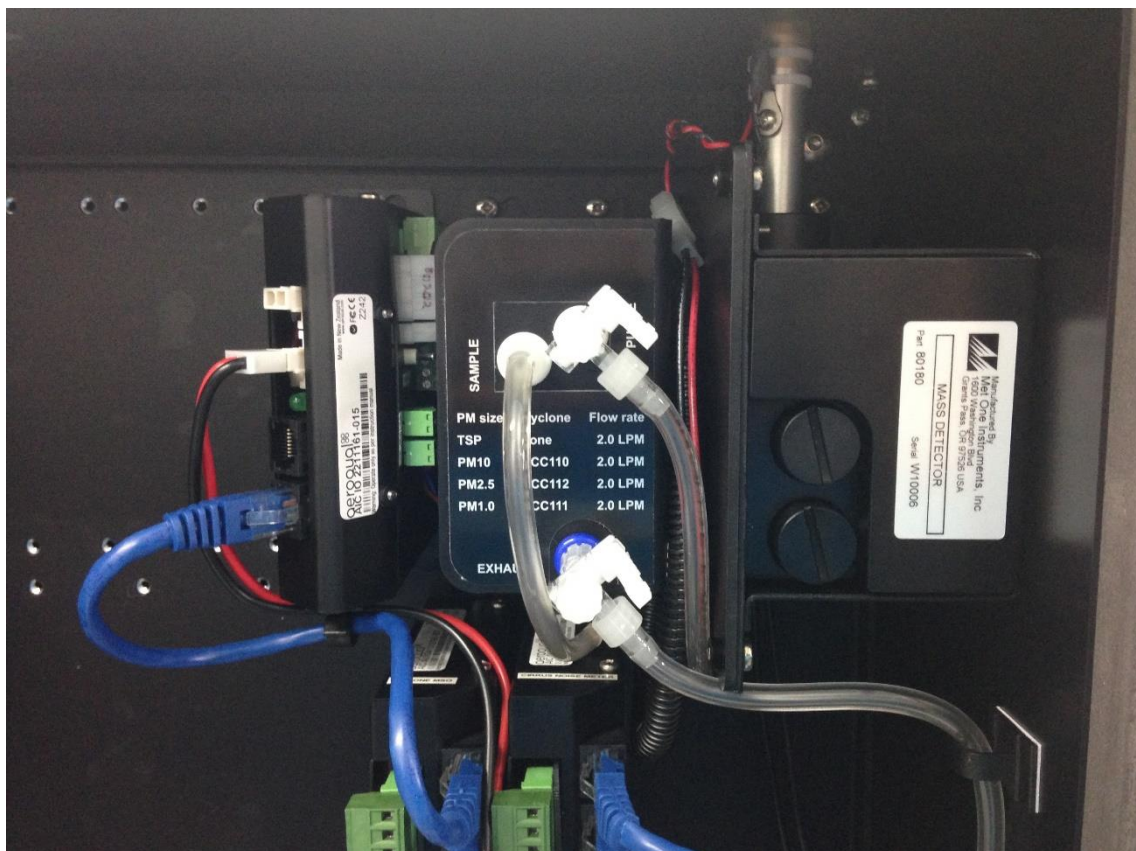

Figure 0-10 The Particle Monitor uses three modules: a) the optical engine on the far right, b) the pump module in the middle, c) the I/O module on the left
- the Particle Monitor uses a nephelometer (See Figure 0-10)
The Particle Monitor uses a custom Met One near forward scattering nephelometer to measure particle concentration and a sharp cut inlet cyclone to select the particle size. This module is shown on the far right in Figure 0-10.
All of the modules used in the Particle Monitor system are held in the top row of the AQM 65. Figure 0-10 shows an AQM 65 with one Particle Monitor installed (three modules total) and Figure 0-11 shows an AQM 65 with two Particle Monitors installed (six modules total).